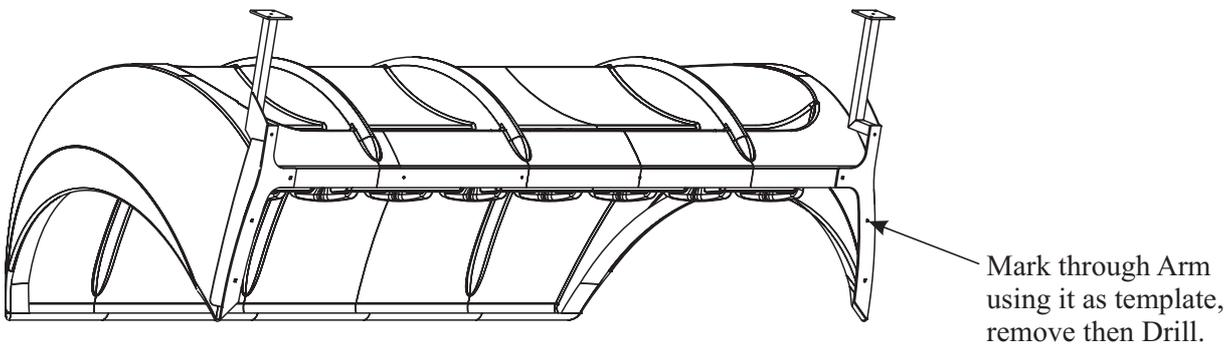

Fig.2
- 2 Drill Shelter Ready for Anchor Arms** - Carefully lay the shelter on its front and offer up each Arm in turn and using as a template; mark through each hole position as shown in Fig 2. Remove Arm and drill pilot hole through the Shelter then open out to 13mm.